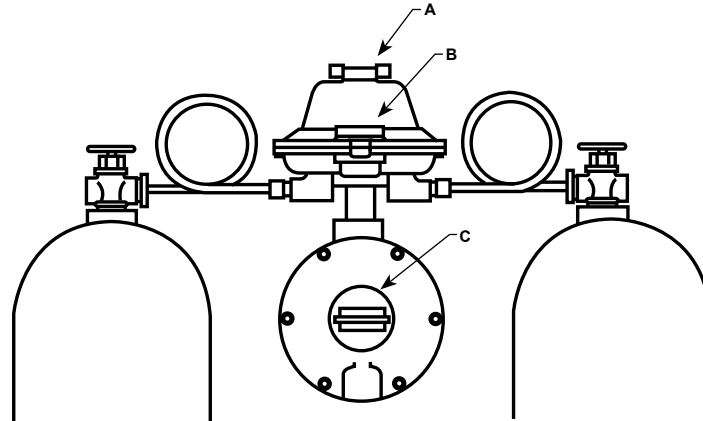

Figure 2. Typical Hook-up
4. Inform the user that the supply cylinder is not completely empty until the red warning flag is fully visible in the indicator window (B), Figure 2.
Place one of the two cylinders in "Supply" by rotating the changeover knob (A), see Figure 2, either way as far as it will go. The arrow will denote the "Supply" service side. Open both cylinder valves slowly.
Type R110 is factory set and is non-adjustable. Each second-stage regulator is individually factory set to deliver 11-inches wc (0,03 mbar). If it becomes necessary to increase outlet pressure, remove the closing cap (C), Figure 2, and turn the adjusting screw clockwise. Turn the adjusting screw counterclockwise to decrease the outlet pressure. A pressure gauge or water manometer is needed to determine the regulator's outlet setting after adjustment. Always replace the closing cap after the adjustment is made.